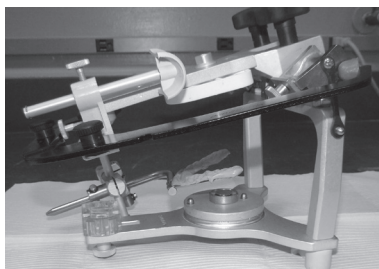

Figure 22
7. Because the guidance of this instrument is part of the upper frame and the facebow is, in effect, one piece with this frame, the facebow bitefork is in fixed relation to the upper frame. (Figure 22)